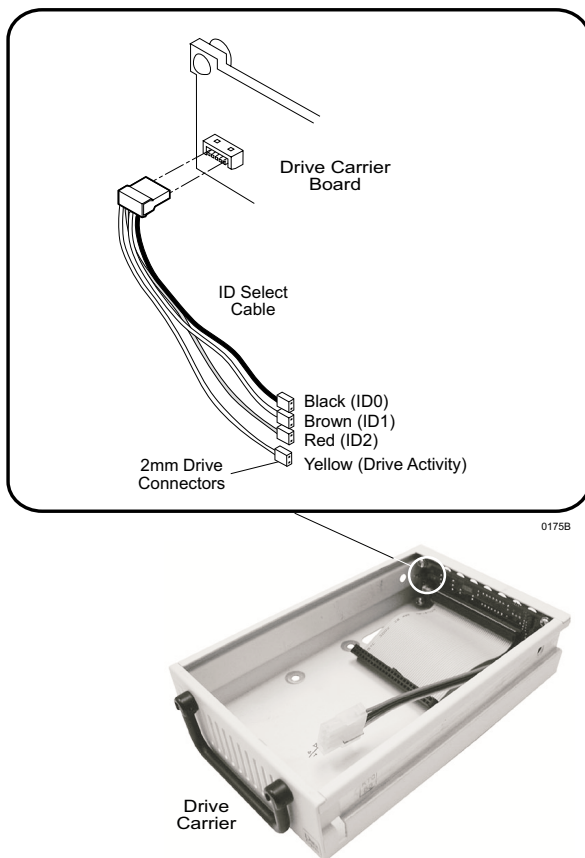

Figure 7: Typical SCSI ID Select Connection
3. Install the 4-pin ID select cable into the rear signal distribution board connector and connect to the appropriate drive pins as shown in Figure 7.